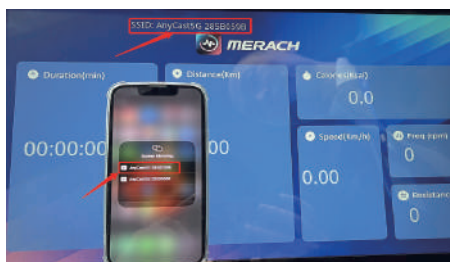

Figure 2
3. Select the same **SSID code** as the display and connect. As shown in Figure 2.
Repeat 3 times for each leg (see Figure 2).